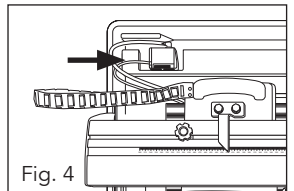

Fig. 4
4. Place the water pump (13) into the trough (22) in an upright position (using the rubber suction feet). Ensure it is clear of the work table (4) (Fig. 4).